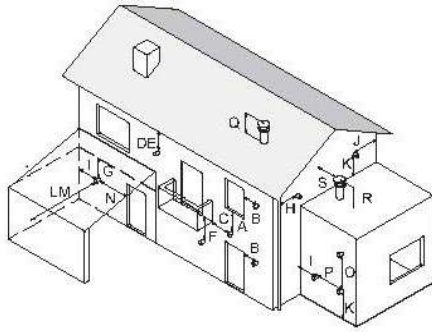

Figure 5.9
- be installed in accordance with the minimum distances Figure 5.9 and applicable national and local regulations.